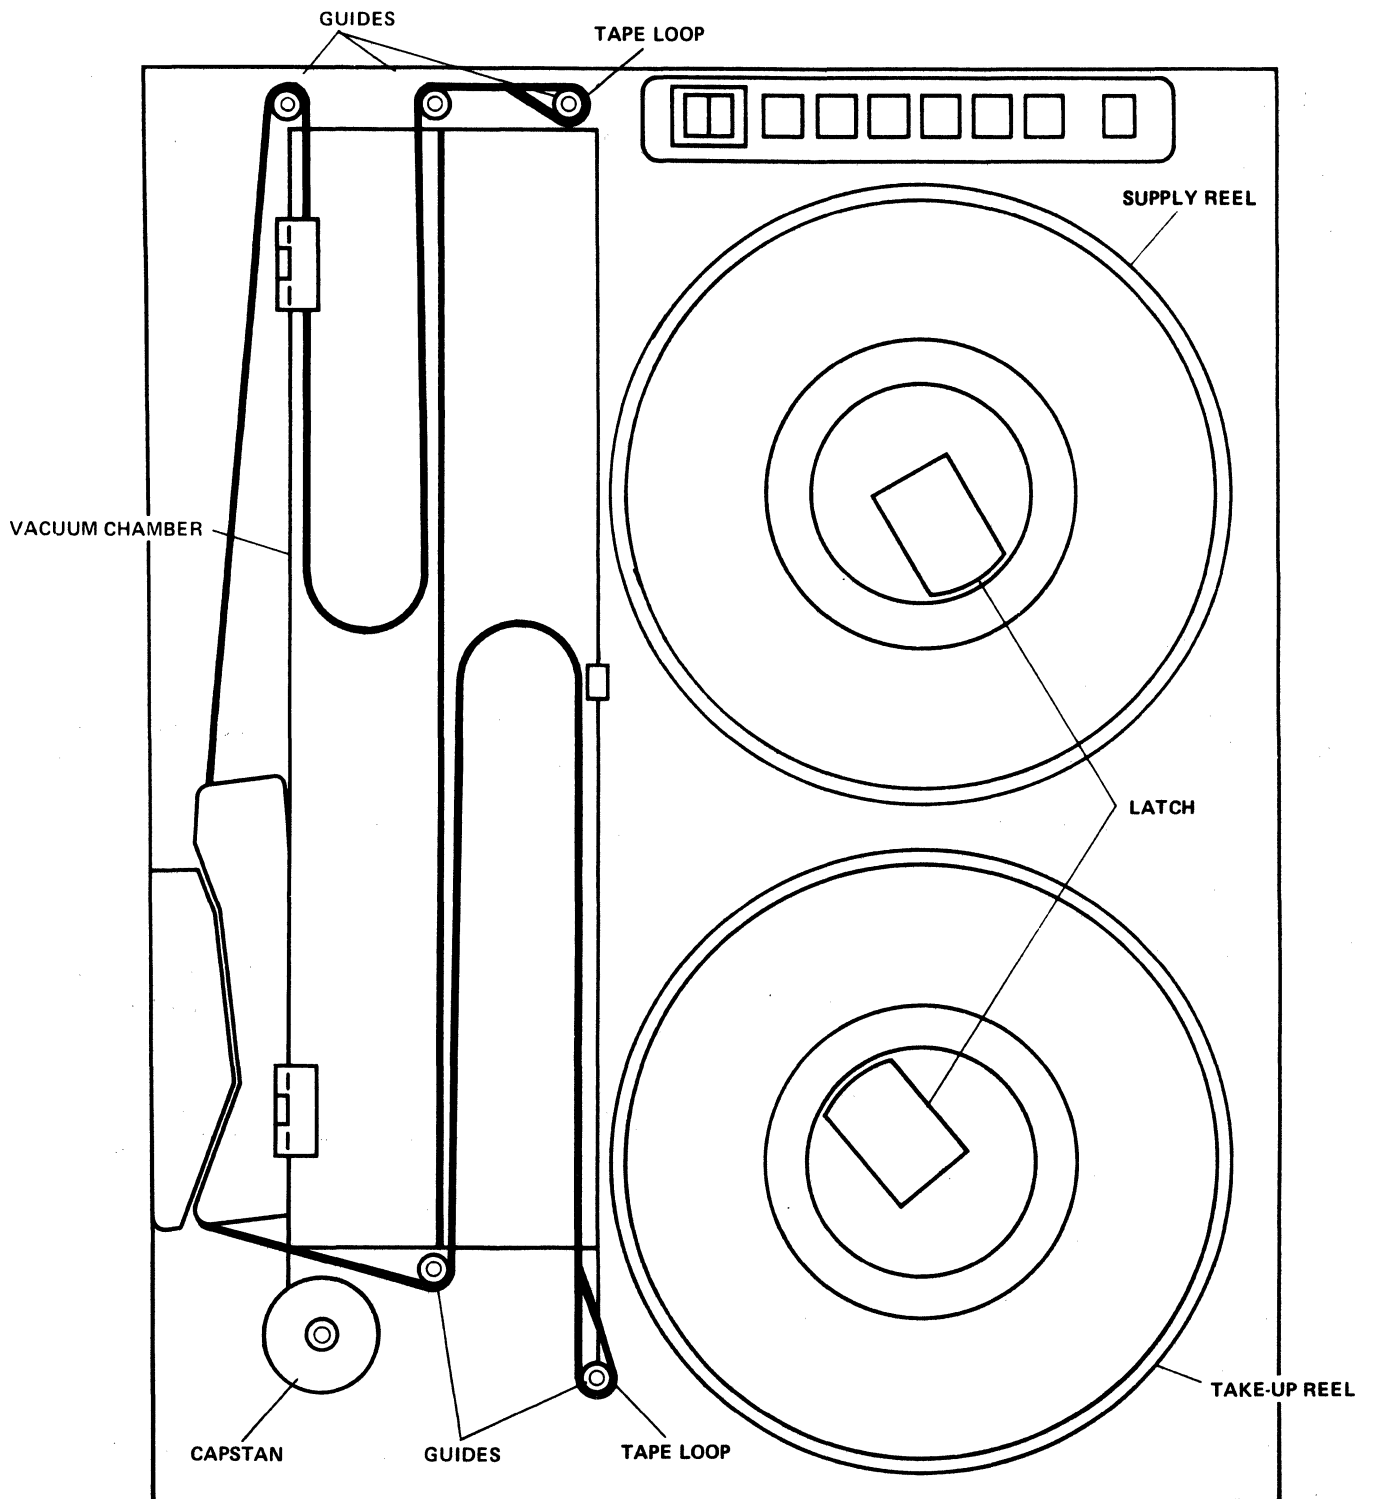

Figure 5-3. Tape Loop for Vacuum Column Servo Adjustment
- b. Remove the head covers. Load a loop of tape in the vacuum column as shown in figure 5-3.